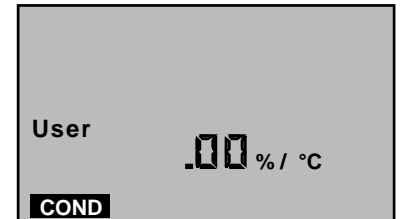

Figure 3
- b. With "USER" selected, press **CAL**/**MCLR**. If the display does not show .00%/°C, hold **MR** long enough to bring the tempco to .00%/°C (see Fig. 3).